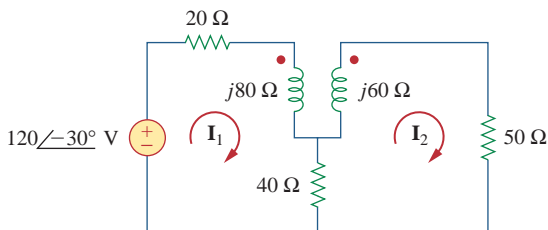

Figure 13.140
13.78 Use PSpice to determine the mesh currents in the circuit of Fig. 13.140. Take $\omega = 1$ rad/s.